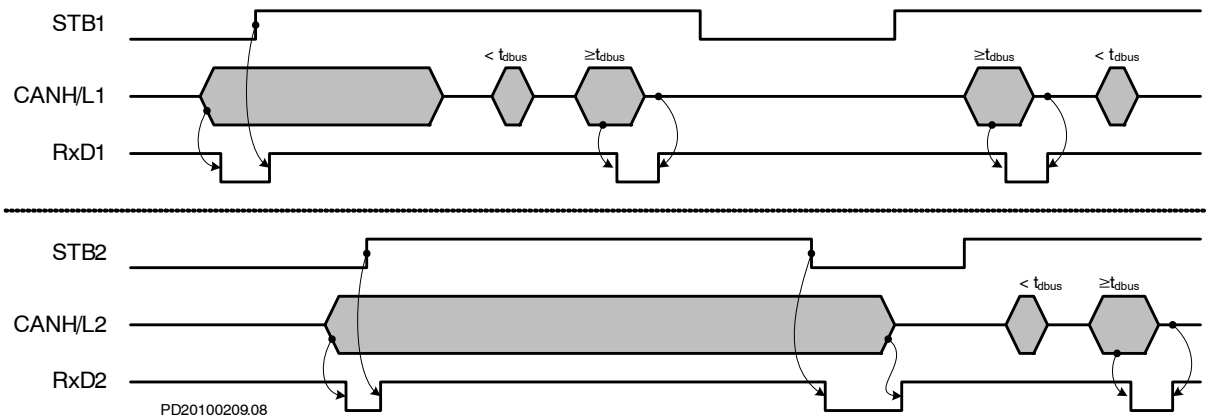

Figure 3. NCV7441 Dual CAN: Bus Activity Detection in Standby Mode
- ◆ Digital output RxD1/2 signals the output of the low-power receiver and can be used as a wakeup signal in the application. A filtering time t_{dBUS} is applied between the bus activity and the RxD1/2 signal in order to ensure that only sufficiently long dominant signals on the bus will be propagated to the digital output. In addition, dominant bus signals are ignored in case they were present during normal-to-standby mode transition; in this way unwanted wakeups are avoided in case of permanent dominant failure on the bus. Example waveforms illustrating bus activity detection in standby mode are shown in Figure 3.